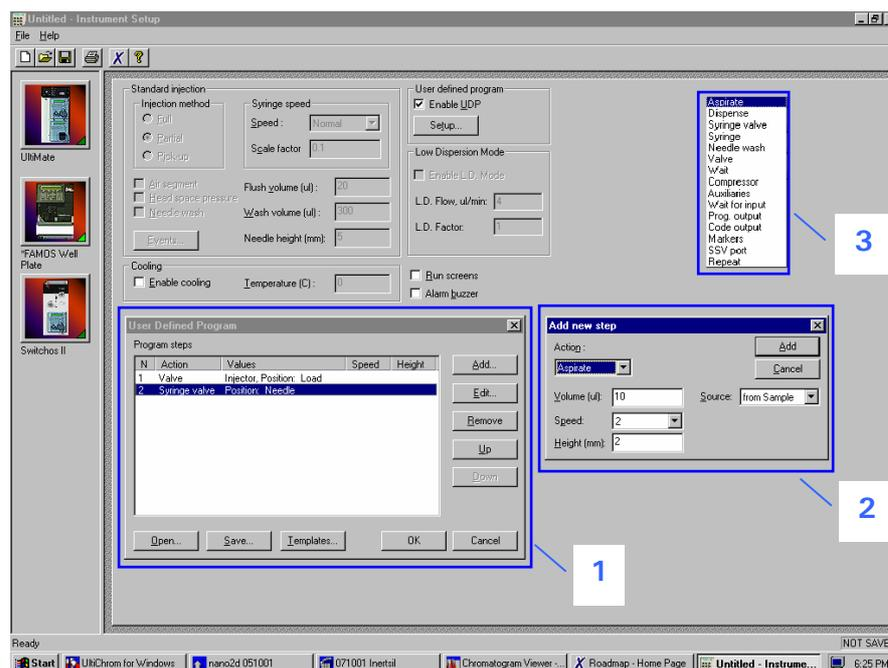

FIGURE 2-35 The User Defined Program Window
- a) Choose the *FAMOS* icon in the **Instrument Setup** window to display the FAMOS setup window (FIGURE 2-35).
- b) Select the ‘Enable UDP’ option and choose the **Setup** button to present the **User Defined Program** window (FIGURE 2-35, item 1).
- c) Choose the **Add** button to open the **Add new step** window and select the required program step from the ‘Action’ list (FIGURE 2-35, items 2 and 3).
- d) To add another program step (e.g. to add an ‘Aspirate’ step as presented in FIGURE 2-35), choose the **Add** button in this window.